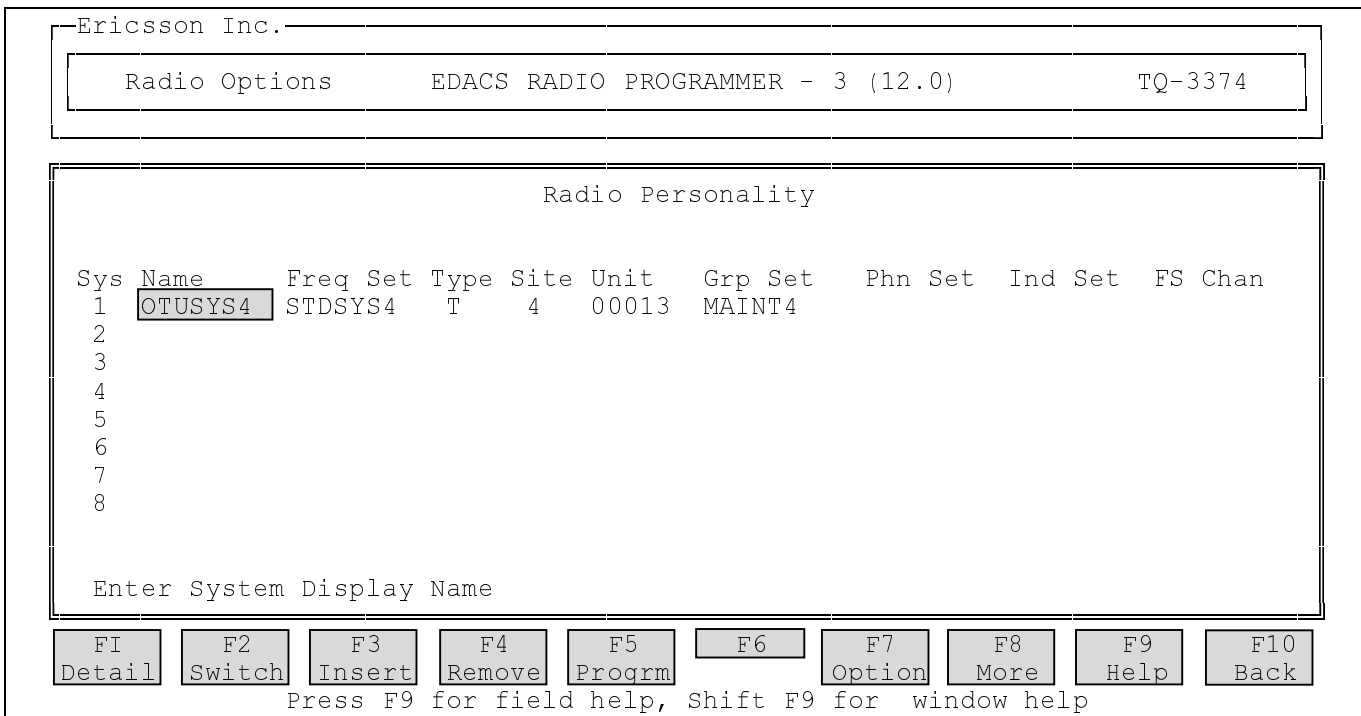
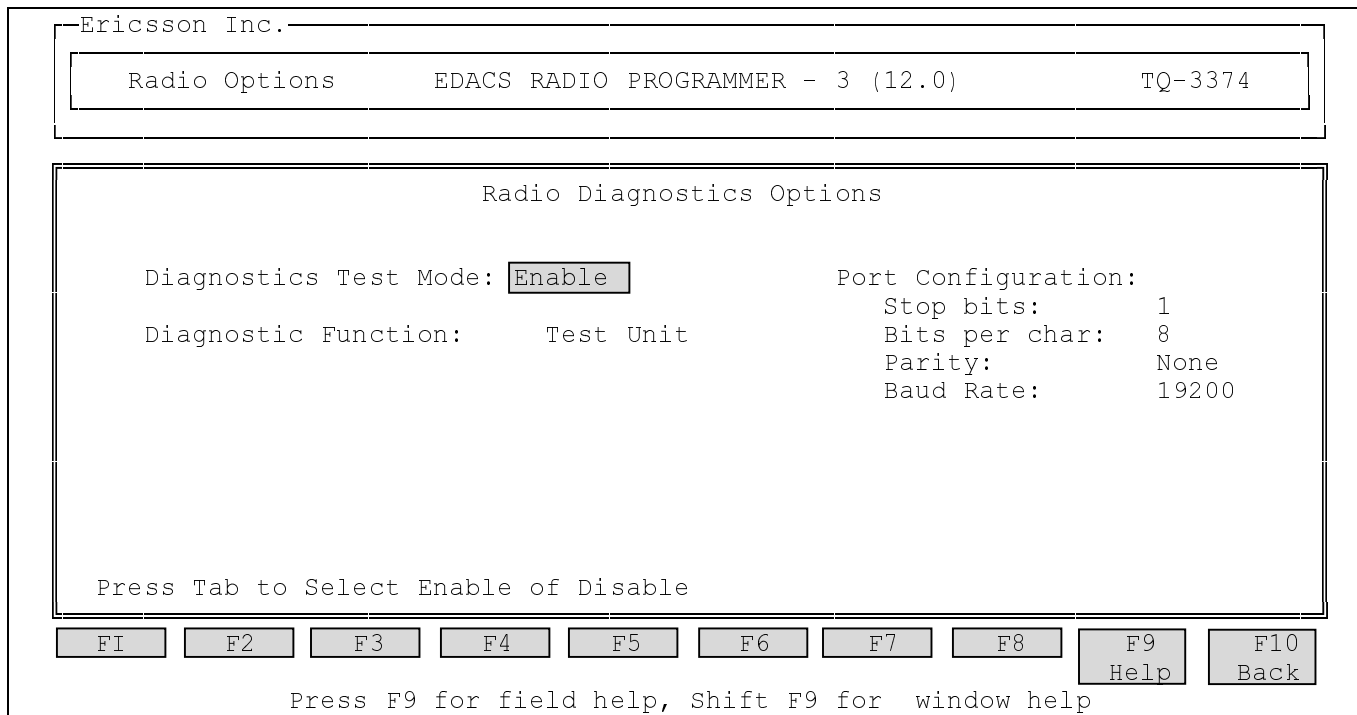

Figure 17 - Radio Personality Screen
Figure 18 - Radio Diagnostics Options Screen
- Press the **F1** (Yes) function key to go to the **Radio Personality** screen (see Figure 17). (Ignore any warning about the number of agencies defined.)
- Press the **F8** (More) function key 3 times to see more feature keys.
- Press the **F2** (DGNTST) function key to go to the **Radio Diagnostics Options** screen (see Figure 18).